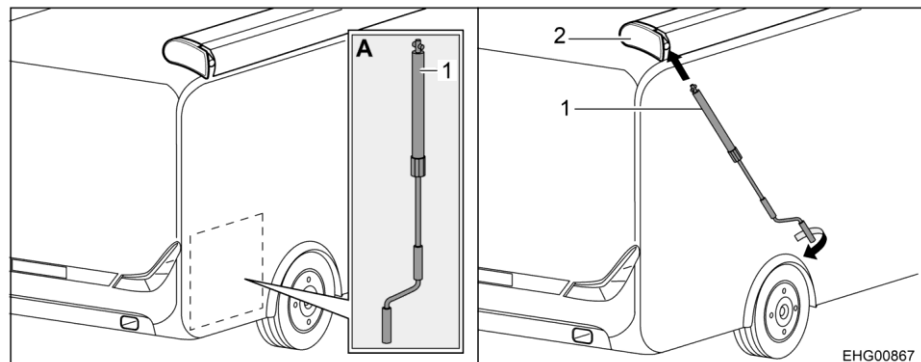

Fig. 45 Installing crank
- Take crank (Fig. 45,1) out of the rear garage (Fig. 45,A).
- Insert crank into bayonet socket (Fig. 45,2) of the awning.